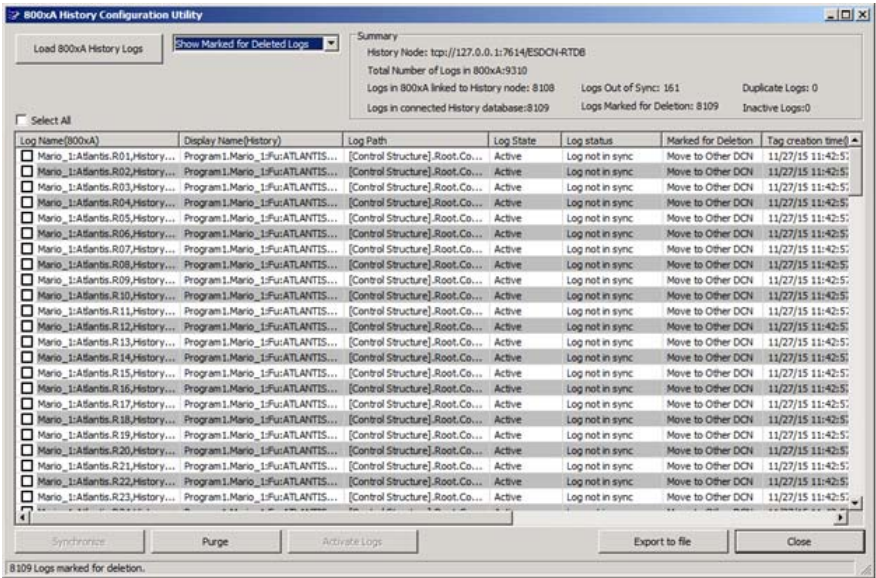

Figure 228. Show Logs Marked for Deletion
- 3. Select the **Show Marked for Deleted Logs** button as shown in the Figure 228, will list all the logs marked for deletion. (History Logs which are already deleted in the System 800xA).